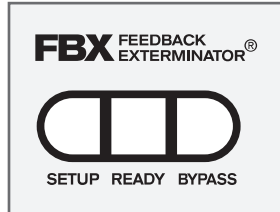

Fig. 3d - FBX: SETUP
- 2 Press and hold the **SETUP** button (Fig. 3d) on the receiver until the LCD **SETUP** indicator (Fig. 3e) flashes 4 times and **SETUP** stays lit — then release it.
The **BYPASS** button (Fig. 3d) bypasses only the FBX filters, and not the additional signal processing (de-essing, compression and Mic SuperModeling™) available on the True Mobility™ Wireless Receiver. This is a useful button that allows comparison of the sound quality when FBX filters are in place, to the sound with no filters (the quality should be very similar). **Before pressing BYPASS, take care to reduce your overall system gain so that you do not release suppressed feedback!**